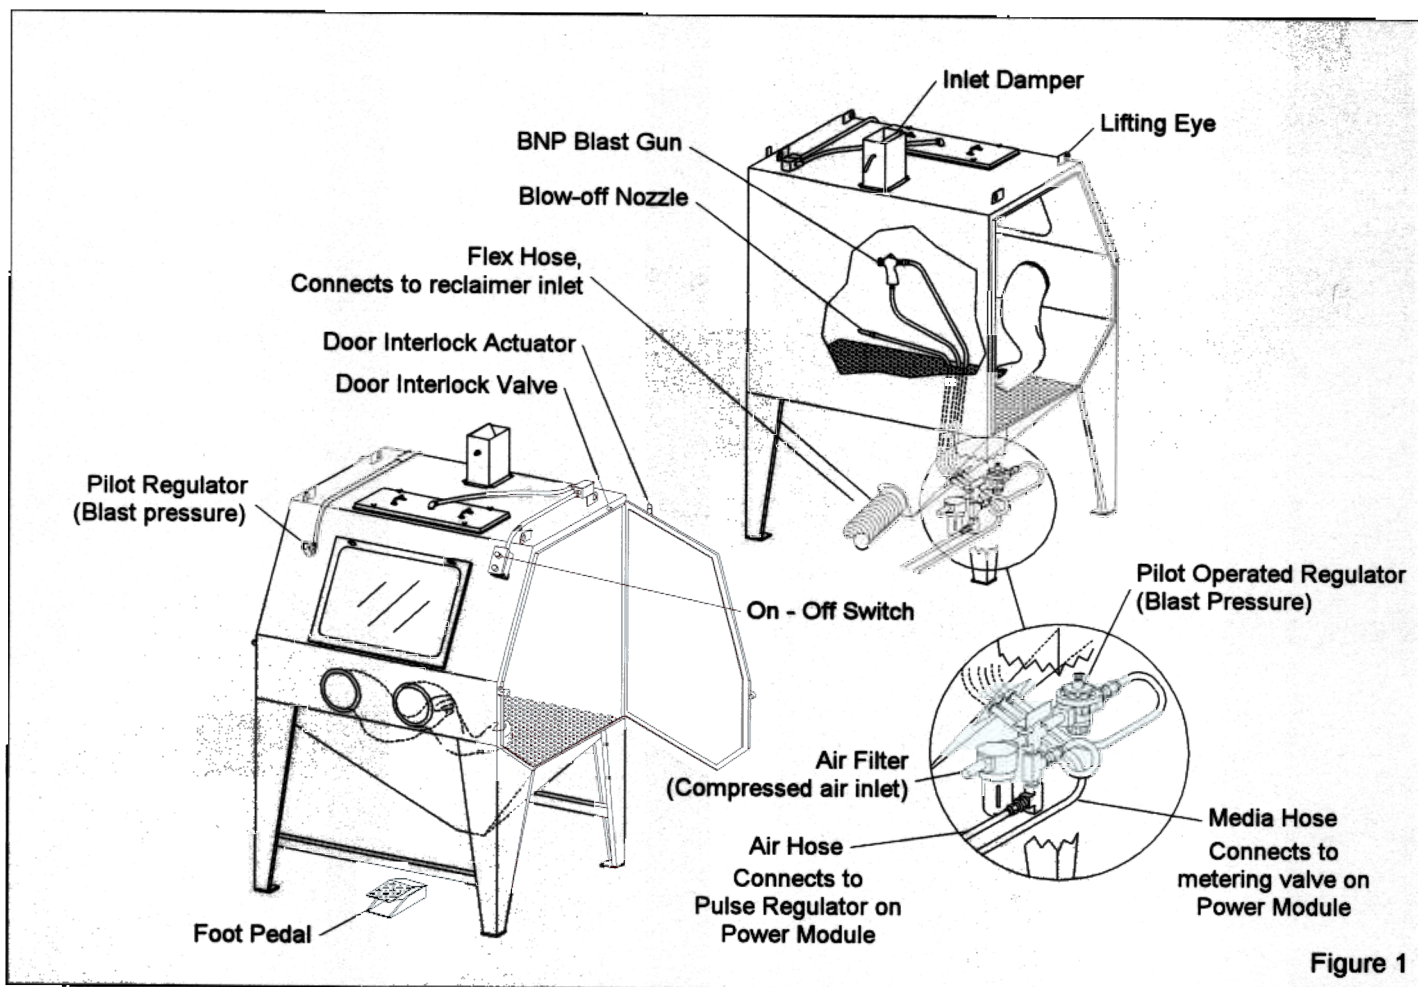
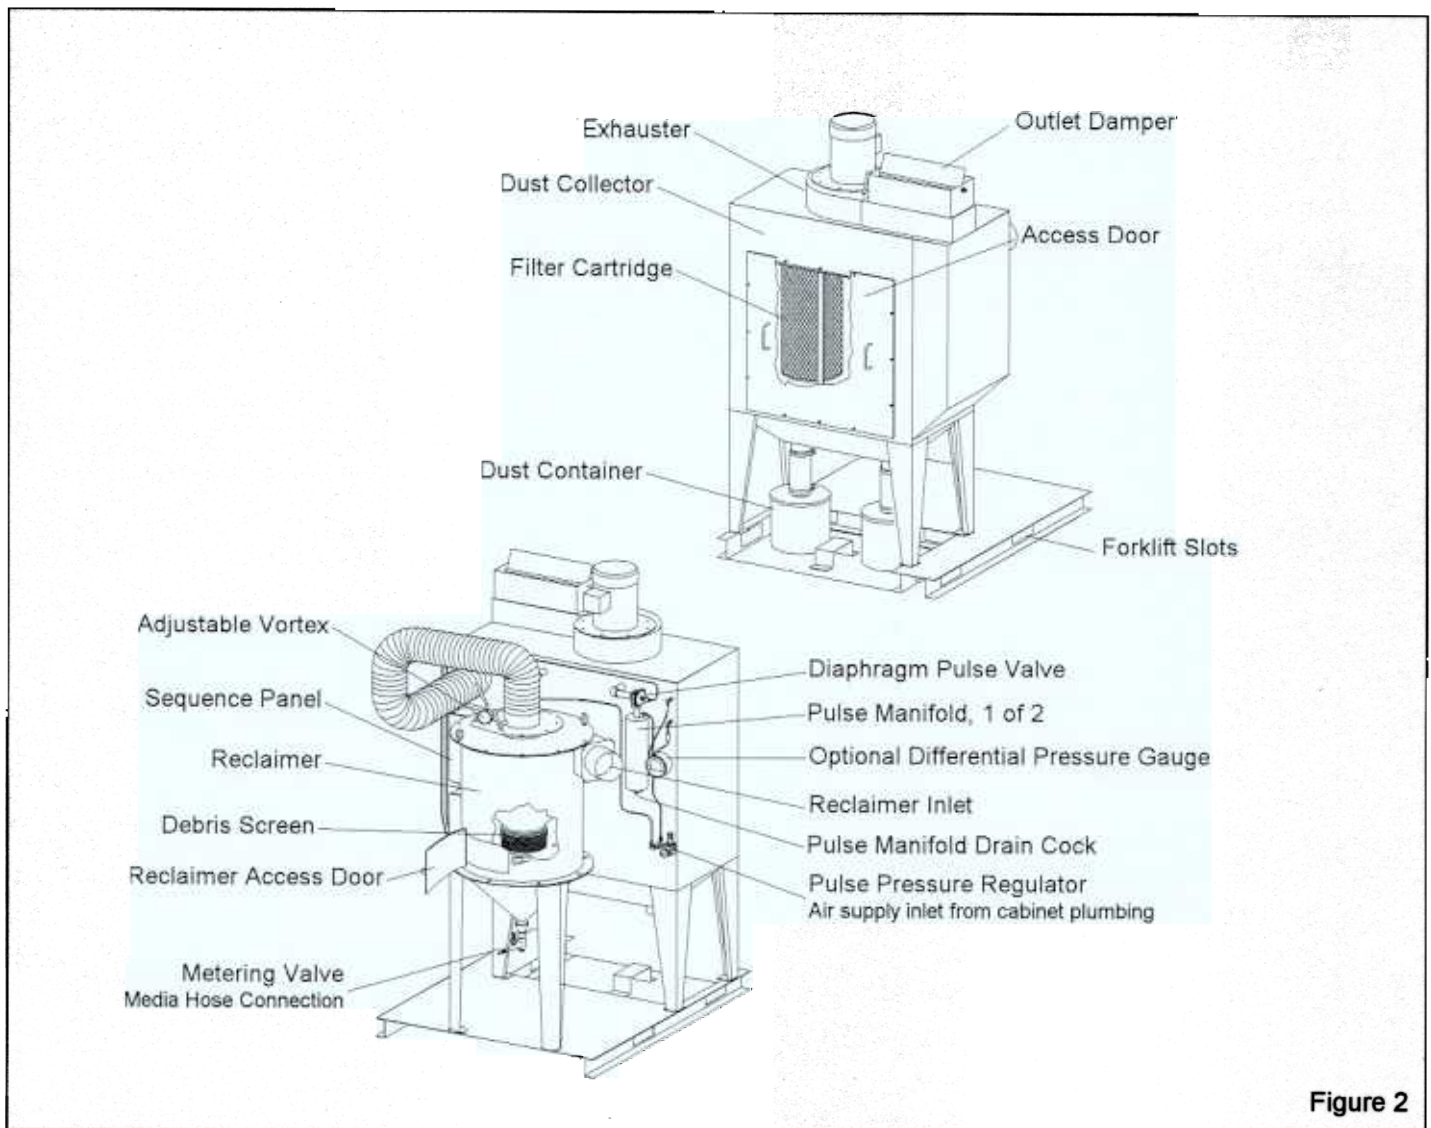

Figure 1
Figure 2
See Figure 1 for components of the cabinet enclosure, and Figure 2 for arrangement and components of the power module.
2.8.1 Connect the air hose from the piping assembly under the cabinet to the dust collector pulse pressure regulator. refer to Figures 1 and 2.